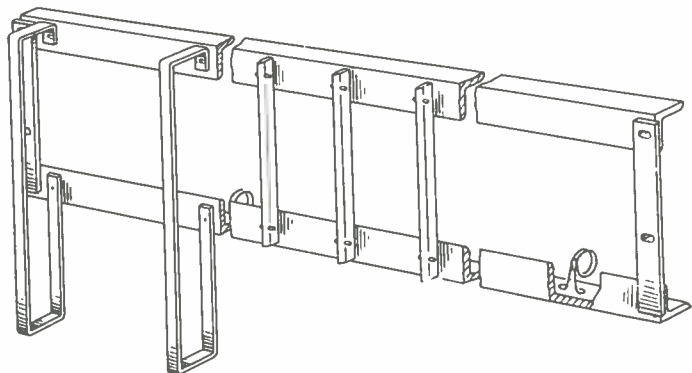

Fig. 6—Basic steel work for the new shelf showing miniature relay rack at the left, the rings for the shelf cable, and the shorter guide bars
Fig. 6—The plate plays only a small part in deionizing the tube. This was established by determining the minimum swing of the grid required to maintain stable operation when the plate became negative
Fig. 7—That the grid does most of the deionizing in a gas tube was determined by changing the grid voltage. The plate grid-voltage ratio required for stable operation varied much more than when the plate voltage was allowed to become negative as indicated in Figure 6
phased to lag as nearly 90 degrees as possible behind the plate voltage. Results of these measurements on a 338-type Western Electric tube are shown in Figure 6 where  $e_p$  is the plate-to-cathode voltage when the tube fired. This voltage is practically the same as the condenser potential, which is the quantity wanted, since the condenser's impedance for the fundamental frequency is very much higher than that of the discharge resistance. The peak value of the grid swing relative to the cathode  $e_g$  was measured directly at the grid. The small effect of the plate in the deionizing action is shown by the slight changes caused by preventing the plate from going negative. The important region for deionization is that which is screened from the plate by the control grid.
In contrast, the grid performs a major function in deionizing the tube. A comparison was made of the minimum grid-swing necessary to maintain stable operation as a function of the plate-swing under two conditions. The first involved sinusoidal operation of the circuit of Figure 1 and the second that of a circuit in which the tube under test was triggered by a discharge whose phase could be adjusted relative to that of the plate voltage. The results are shown in Figure 7 where  $e_p$  has its previous significance and  $e_g$  is the bias voltage. The grid resistance was made small so that, except during the triggering operation, this voltage was practically the same at any instant as that at the grid. The change in the critical grid-plate potential ratio is much greater than that which is produced by allowing the plate voltage to become negative as indicated in Figure 6.
Another economy is a reduction made possible by eliminating the strip that formerly supported the shelf cable and in using shorter and narrower guide bars. This will be evident by comparing Figure 6, which shows the construction of the new shelf, with Figure 4. On the new shelf the guide bars are just long enough to carry the two pins on which the switch is hung; the extension below the lower angle is omitted.
*Figs. 5, 6 and 7—One of the two printing machines, operated by G. T. Scheeler, is shown in Figure 5. A similar machine is to the right of it, separated by a table. On the opposite or east wall, and separated from the printers by the long developing tanks, are the rotary washers, shown in Figure 7 with F. Fossetta. The developing room includes along the north wall a two-compartment developing tank, shown with S. O. Jorgensen in Figure 6. On the south wall are work benches and on the west wall is the film drier which may also be reached from the finishing room*
Across the hall from the studios are seven rooms where all developing and printing is done, and also where enlargements and lantern slides are made. Necessary retouching and finishing work is also carried out in these rooms. In the film developing room, Figure 6, are developed all the films made in the studios across the hall or in other parts of the Laboratories. There is a film-drying cabinet on the west wall that has doors on both sides, thus permitting films to be placed in it from the developing room and taken out in the finishing room.